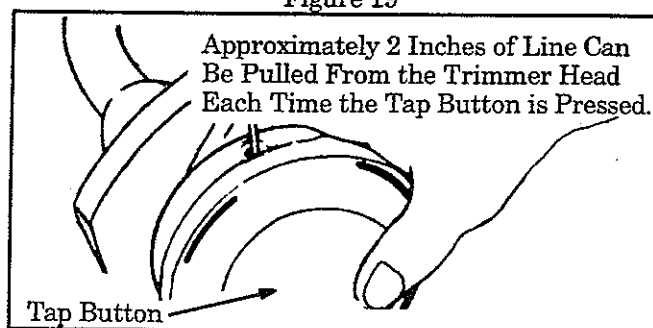

Figure 20
- Obtain the correct line length (4-6 inches) by pressing the tap button (Figure 20) and pulling on the line again.
NOTE: Each time the tap button is pressed, approximately 2 inches of line can be pulled from the trimmer head. Figure 20.